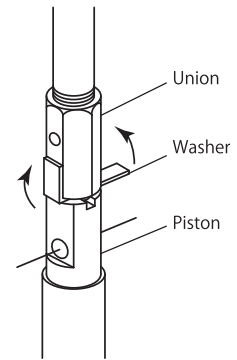

Fig.11
- Assembling the intake valve (Fig.11)